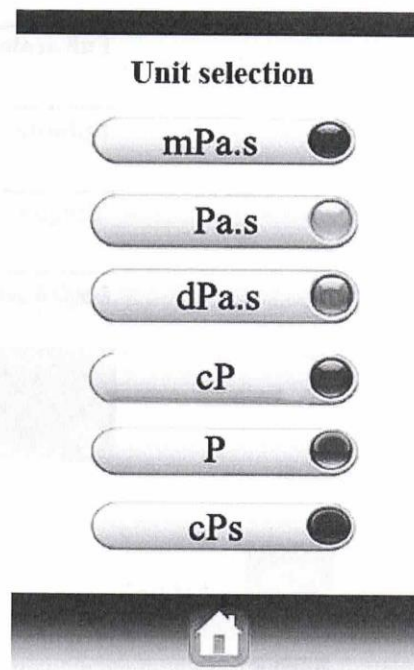

Fig. 4
3. Unit selection: click “》”, Fig. 4 will be displayed. choose one unit, Then back to the main menu.